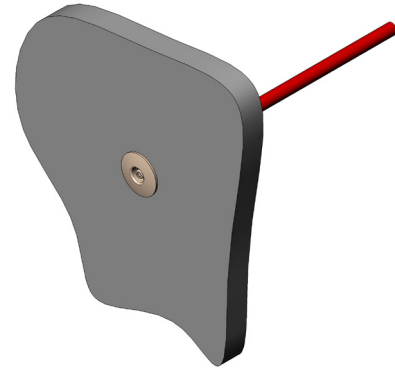

Fig 4: Push Pressure Port onto Wall and Remove Blue Cap
6. Remove protective cap from pressure port. (Fig. 4)